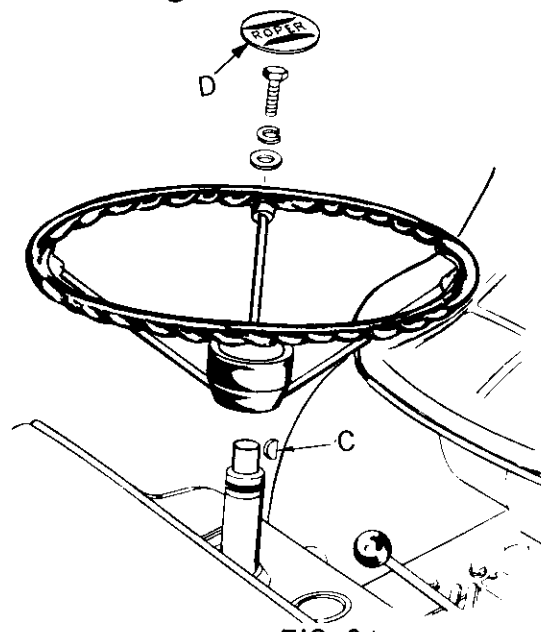

FIG. 2A
1. Refer to Fig. 2A. Insert woodruff key (C) in key way of steering shaft. Slide steering wheel down over steering shaft and woodruff key. Important: Be sure woodruff key is in place in steering shaft and steering wheel. Secure with flat washer, lock-washer and hex bolt. Tighten bolt securely. Press steering cap (D) into position in center of steering wheel.